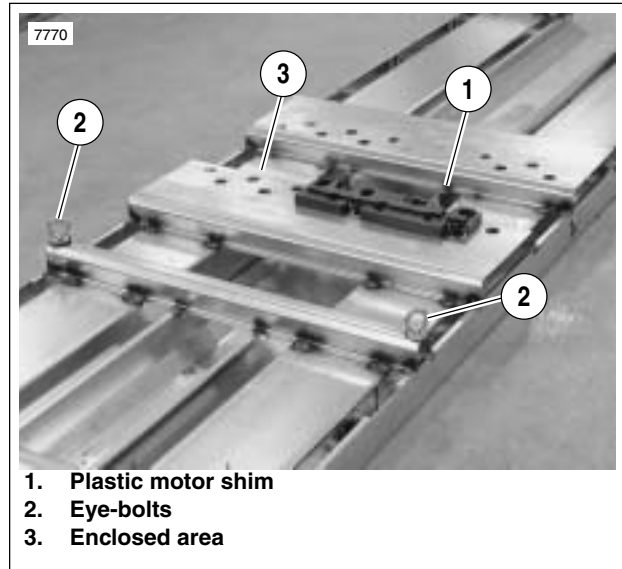

Figure 1-26. Vehicle Pallet
1. See Figure 1-26. Remove and discard plastic motor shim (1).